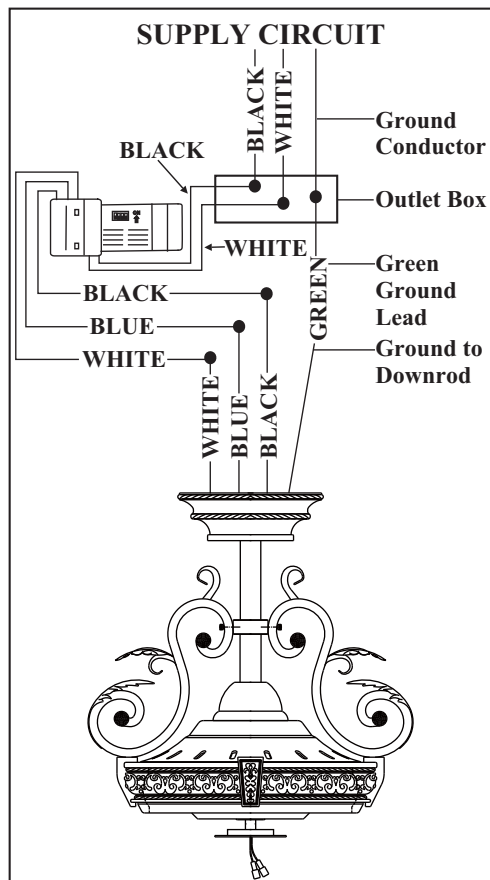

Figure 15
2. (Fig. 15) Motor to receiver electrical connections: Connect the black wire from the fan to black wire marked "TO MOTOR L". Connect the white wire from the fan to the white wire marked "TO MOTOR N" from the receiver. Connect the blue wire from the fan to the blue wire marked "For Light" from the
3. (Figure 15) Receiver to house supply wires electrical connections: Connect the black (hot) wire from the ceiling to the black wire marked "AC in L" from the receiver. Connect the white (neutral) wire from the ceiling to the white wire marked "AC in N" from the receiver. Secure the wire connections with the plastic wire connecting nuts provided.
4. (Figure 15) If your outlet box has a ground wire (green or bare copper) connect it to the fan ground wires; otherwise connect the hanging bracket ground wire to the hanger bracket. Secure the wire connection with a plastic nut provided. After connecting the wires spread them apart so that the green and white wires are on one side of the outlet box and black and blue wires are on the other side. Carefully tuck the wire connections up into the outlet box.